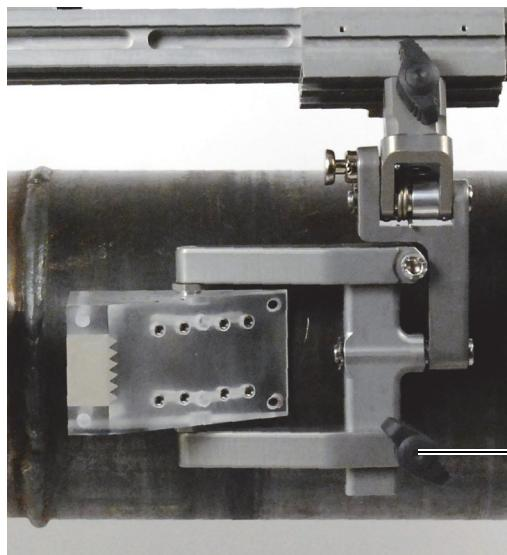

Figure 7-3 The wing knob holding the mobile yoke arm
6. Use the wing knob to release the probe arm that holds the yoke parts together (see Figure 7-3 on page 93).
6. Use the wing knob to free the mobile yoke arm that holds the yoke parts together (see Figure 7-3 on page 93).